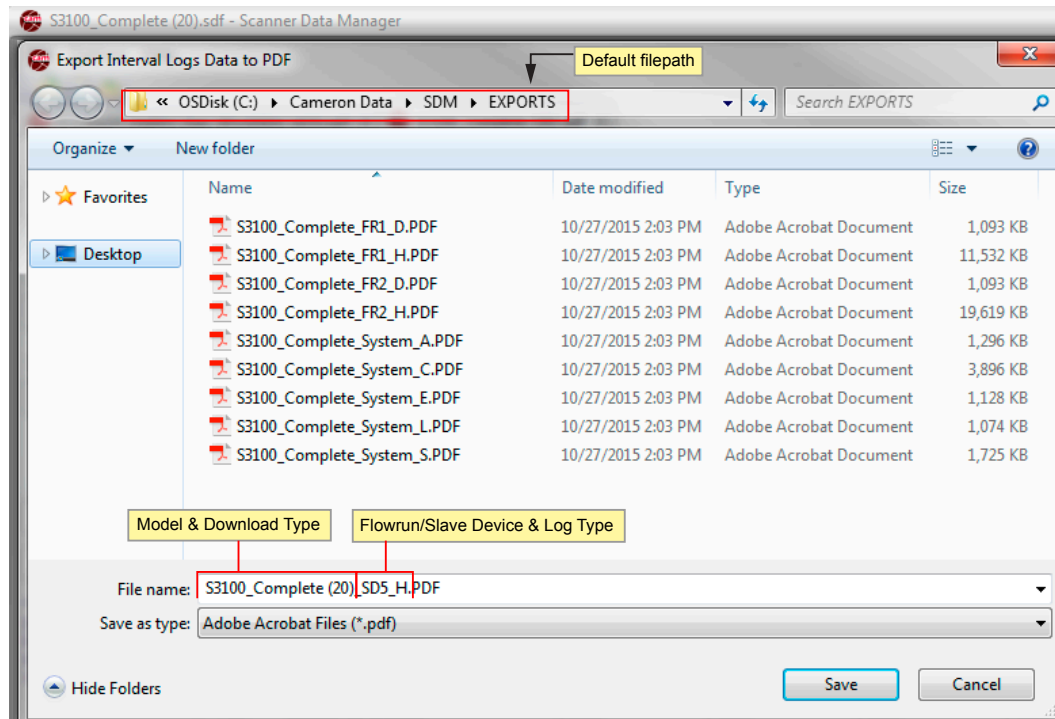
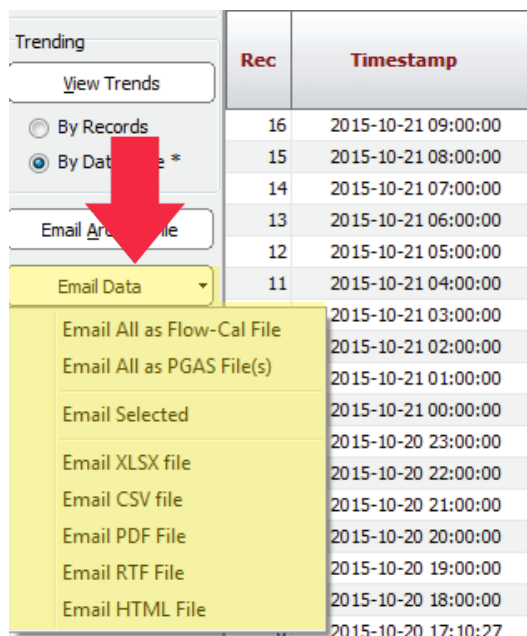

Figure 3.2—Export [Log Type] Data screen
Figure 3.4—Email Data button and dropdown menu
4. Note the filepath (Figure 3.2, page 33) and change if necessary. By default, export files are saved to the “C:\Cameron Data\SDM\Exports” directory on the user’s hard drive.
- Click on the **Email Data** button in the left column of the screen (Figure 3.4) and click the desired **Email [log type] file** selection from the dropdown list. The *Export [Log Type] Data to...* dialog (Figure 3.2, page 33) will appear.